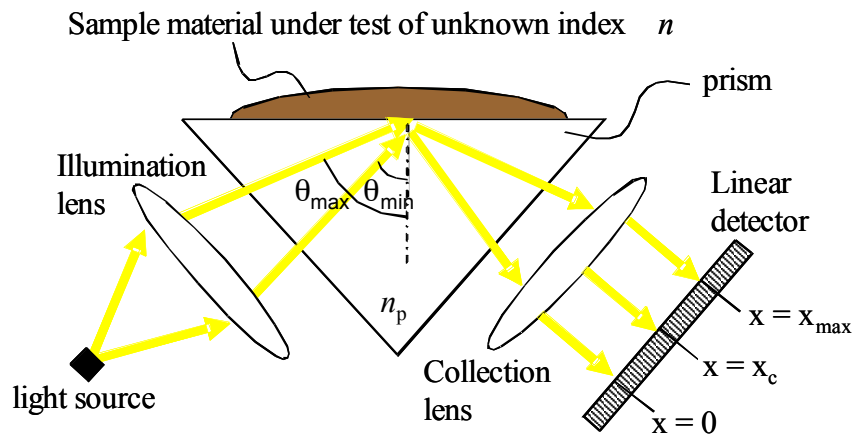

FIG. 3
Physically a refractometer is composed of a light source, a prism, and a linear detector array. As illustrated in **FIG. 3**, an illumination lens is used to direct the light from the light source to the prism and a collection lens collects the light that is reflected from the prism-sample interface and directs it towards the linear detector array. In modern digital refractometers the light source is typically a semiconductor laser or LED at about 589.3 nm (yellow light). The purpose of the illumination lens is to create a focusing beam or cone of light incident upon the prism-material interface that ranges in angles of incidence between q_{\min} and q_{\max} . The critical angle q_c of the prism-sample interface must be such that $q_{\min} < q_c < q_{\max}$, where q_c is the angle q_1 at which q_2 becomes 90° . From Eq. (2), in order for $q_2 = 90^\circ$, the argument of the arcsin on the right hand side of the equation must equal unity. Using $n_2 = n$ for the index of refraction of the material under test and $n_p = n_1$ for the index of refraction of the prism, the critical angle can be expressed as